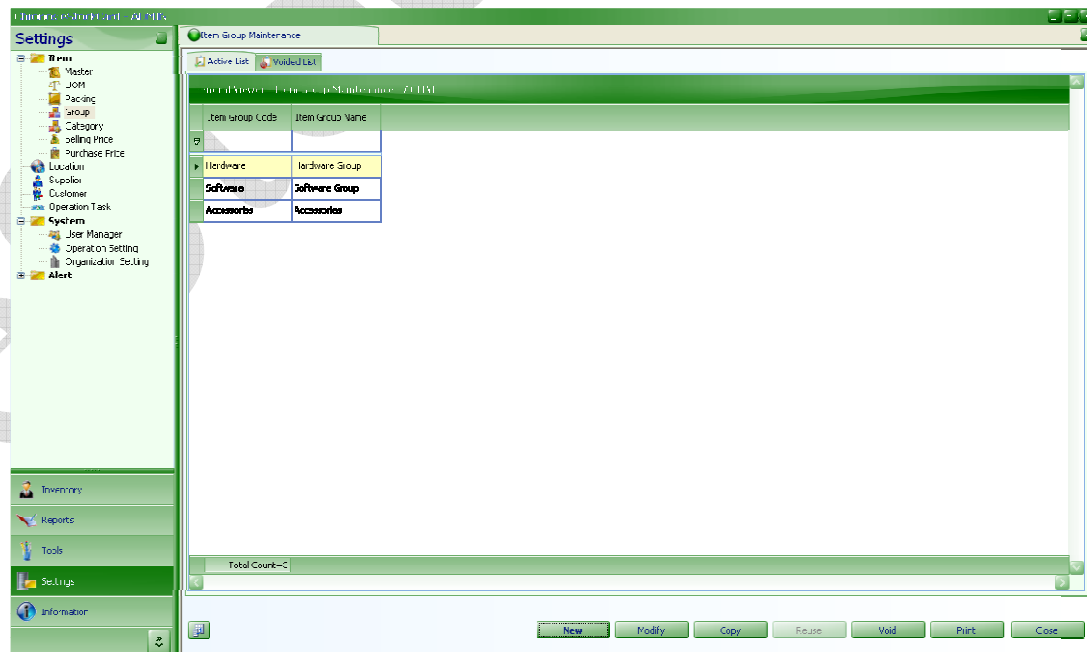

Fig. 21
Step 3 Click “Save”. (Fig. 21)